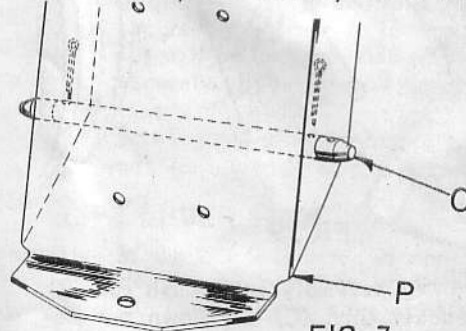

FIG. 7
11. Refer to Fig. 7. Slip lower link pin (O) through holes in sides of tractor drawbar (P) as shown. Pin may also be inserted through slot in wheel into holes in drawbar. If this cannot be done remove rear wheel to insert lower link pin (O). NOTE: Insert and spread (2) $3/16 \times 1$ cotter pins in lower link pin (O) under and between insides of drawbar (P).
14. Refer to Fig. 7. Slip R.H. and L.H. push rods (Q & R) over ends of lower link pin (O) as shown and secure with retainer springs (K). Tighten four (4) bolts in hanger brackets R.H. and L.H. (B & C) and rocker bar (N) left loose in steps 9 & 10.